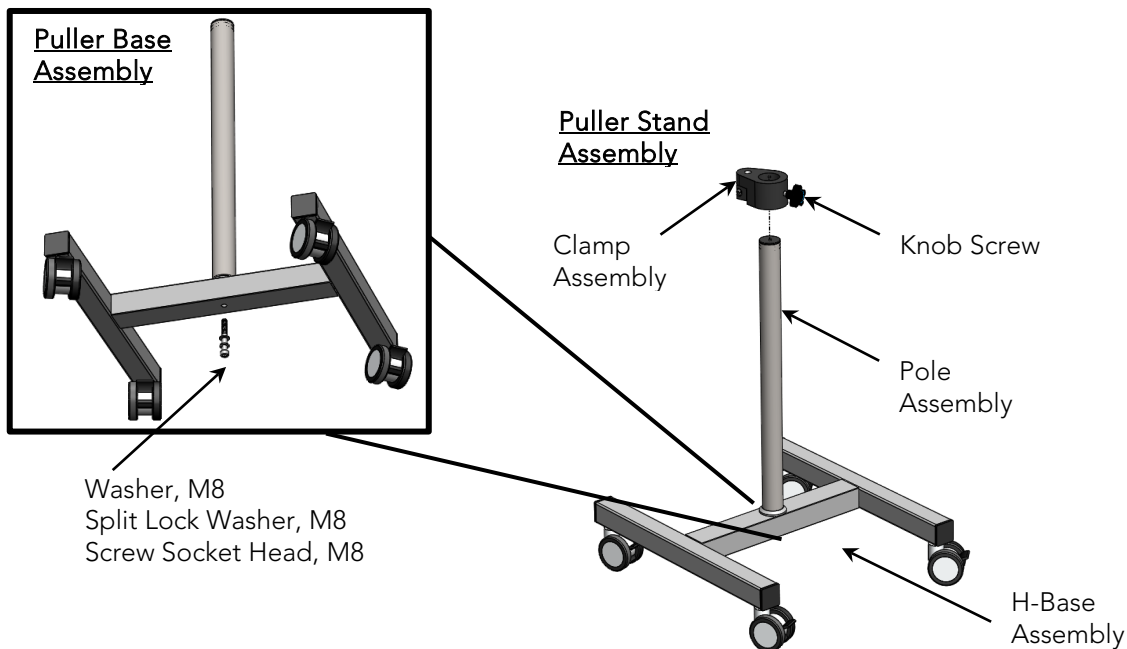

Figure 11: Puller Base and Puller Stand Assembly
1. Connect the Pole Assembly to the H-Base Assembly using the provided Washer M8, Split Washer M8, and Screw M8. Use the 6mm HEX L-Key to secure the screw (Figure 11).
2. Slide the Clamp Assembly into the post of the Puller Base Assembly and lock it in position with the Knob Screw provided. Use a 4mm Hex L-Key to insert the Puller into the Clamp Assembly (Figure 11).